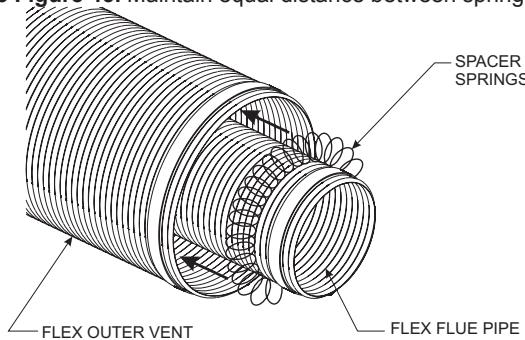
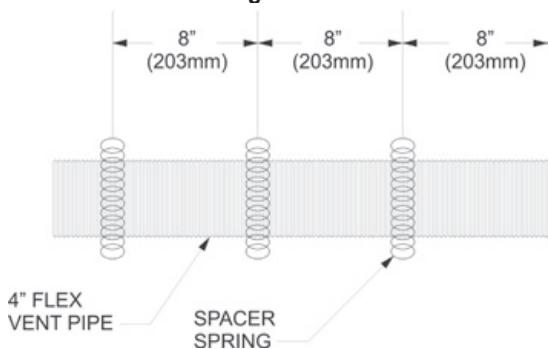

Figure 44
Figure 45
2. Check to see that the vent spacer springs are located around the flue vent at 8" and 12" intervals along its length. **See Figure 44.** If not, stretch the spacer springs to about 15" long and wrap them around the flue, then interlock the ends of each spring about 2". **See Figure 45.** Maintain equal distance between spring spacers.
Finishing The Wall For DFQ41W Series, DFQ414BL Decorative Front With Finishing Materials Less Than 1 in. (25.4mm) Thick - Figure 45